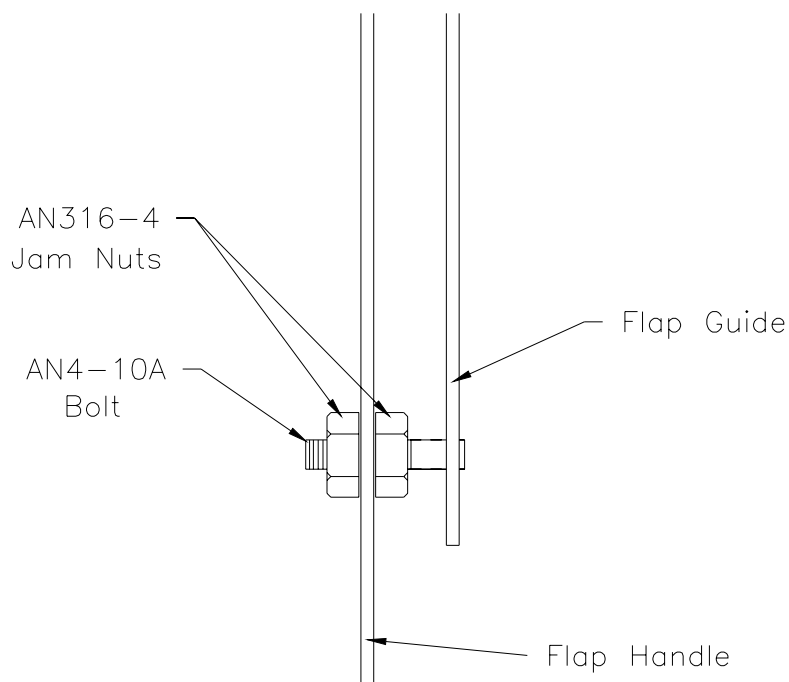

Figure 20.12.8
- 24) Cut the head off a AN4-10A bolt. Install a AN316-4 Jam Nut. Insert the AN4-10A bolt into the flap handle and attach with AN316-4 Jam Nut. Figure 20.12.8. Sand bolt as necessary to allow smooth operation of flaps.